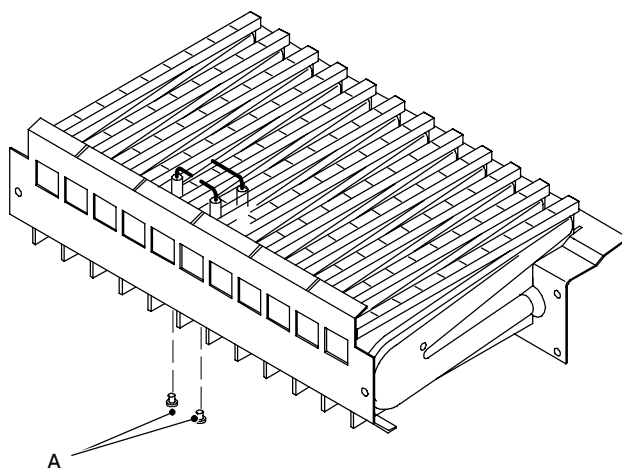

Fig. 3
- 3 Remove the plate E (see Fig. 3 on page 9).
- 5 Unscrew the screws A (Fig. 3) which hold the electrodes to the burner.